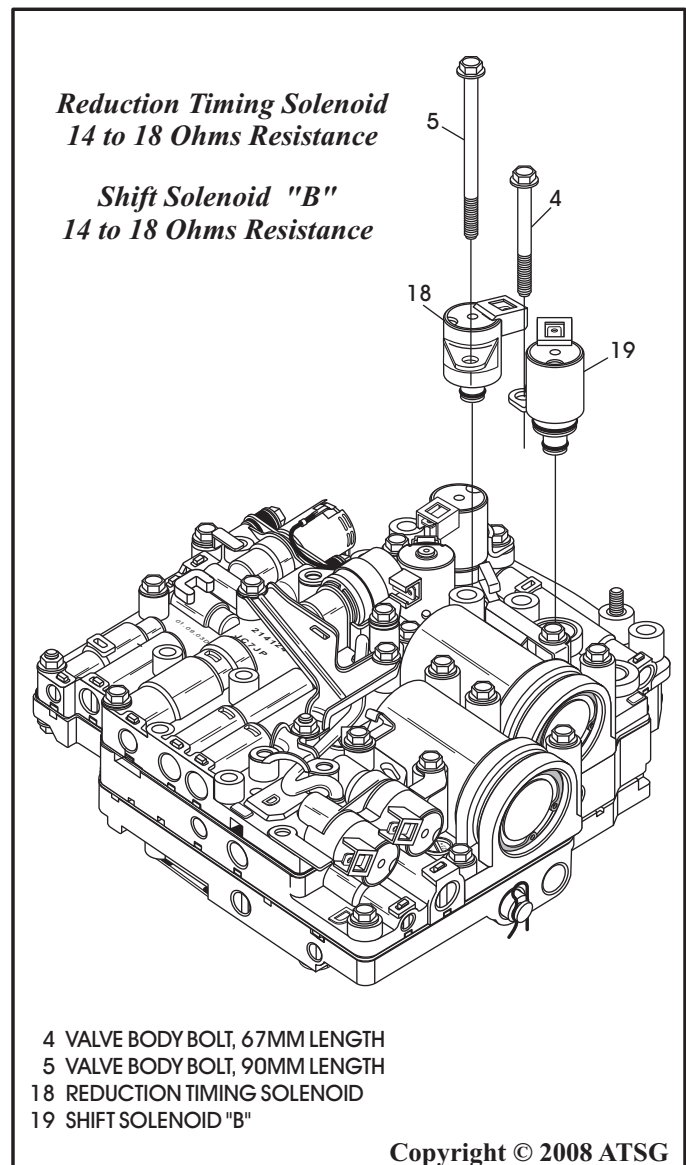

Figure 115
66. Install new "O" ring, lube with ATF, and install reduction timing solenoid into the valve body, using a 90mm bolt, as shown in Figure 115.
68. Install new "O" rings, lube with small amount of ATF, and install shift solenoid "B" into the valve body, using a 67mm bolt, as shown in Figure 115.